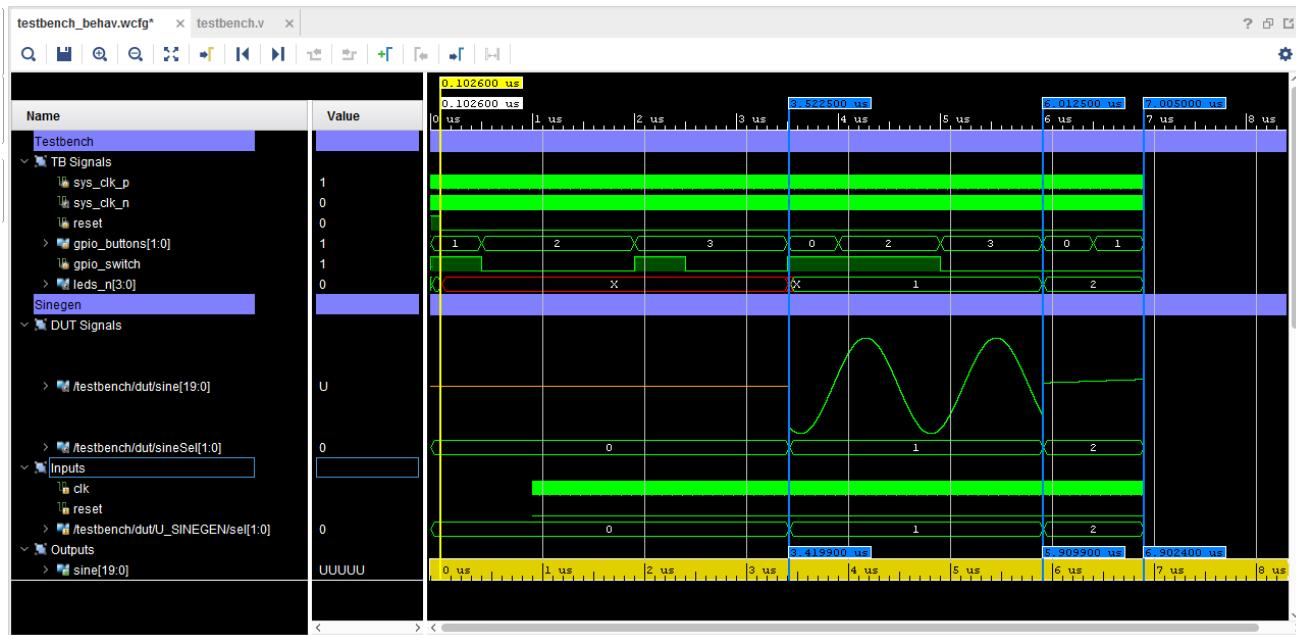

Figure 27: Measuring Time in the Waveform
10. Because 0 is the initial or default FSM output, move the cursor to the first posedge of `sys_clk_p` after reset is asserted low, at time 102.5 ns, as seen in Figure 27.
As shown in Figure 27, the ruler measures a time period of 3.420 ns as the period that FSM selected the low frequency output.